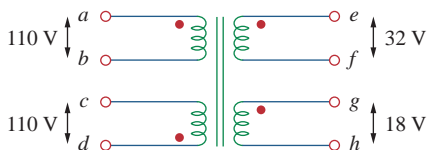

Figure 13.146
- 13.93** A four-winding transformer (Fig. 13.146) is often used in equipment (e.g., PCs, VCRs) that may be operated from either 110 V or 220 V . This makes the equipment suitable for both domestic and foreign use. Show which connections are necessary to provide: